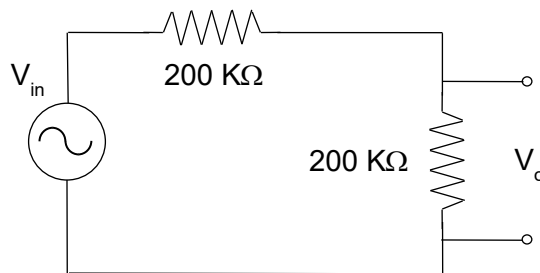

Figure 1. Voltage divider circuit for Part II.
3. Use the Signal Generator to apply an 80 Hz, 3 volt zero-to-peak sine wave to the voltage divider shown in Figure 1. Use the oscilloscope with a $\times 10$ probe to measure V_{in} and V_o . With the oscilloscope still connected to V_o , use the DMM to measure V_o . Note any effect on the oscilloscope readings resulting from connecting the DMM to the circuit. Compare the DMM readings with the values measured by the oscilloscope, on the basis of a percentage change in the readings. Record the measurements before and after adding DMM. Based on your observations, what should you conclude?
5. With only the oscilloscope still connected across V_o of the voltage divider of Figure 1, apply a 300 KHz, 3 volt zero-to-peak sine wave to the circuit. Now, use the DMM to measure V_o . Note any effect on the oscilloscope readings resulting from connecting the DMM to the circuit. Save your data before and after adding the DMM. Repeat these observations with a square wave input and observe the waveforms. Comment on your observations in your lab notebook and the report.
6. Disconnect the oscilloscope from the circuit and replace the 200 K Ω resistors in Figure 1 with 10 M Ω resistors. Now, use the DMM to measure V_o , for an 80Hz, 3 volt zero-to-peak input. Comment on the measured voltage, relative to your expectations.
- (a) Diagram of Figure 1. (1 pts)